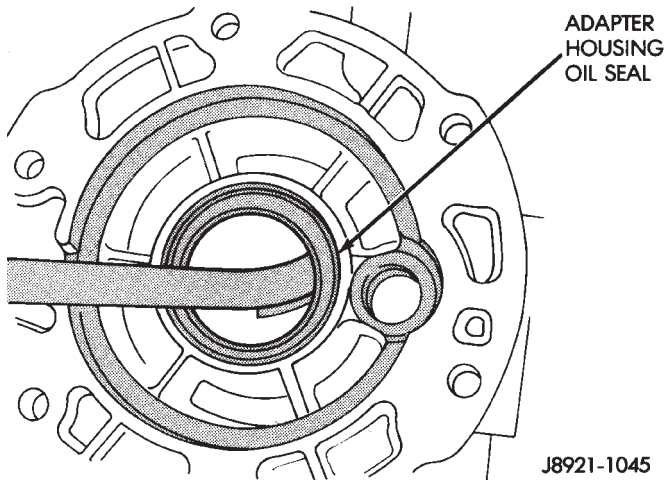

Fig. 15 Removing Adapter Housing Seal
(18) Remove adapter housing oil seal with pry tool (Fig. 15).